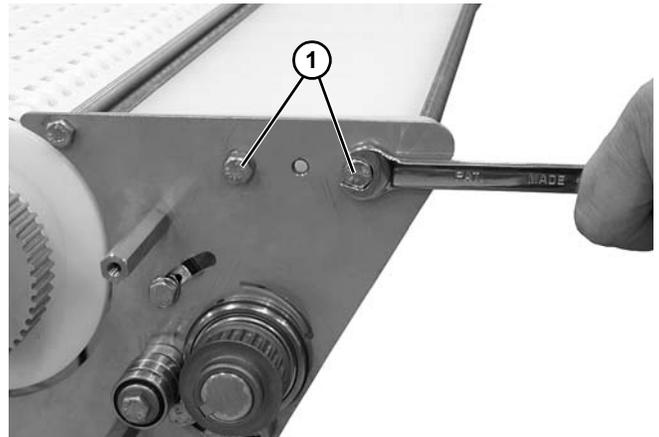

Figure 60
8. Remove two hex head screws (**Figure 60, item 1**) on both sides of the power transfer.